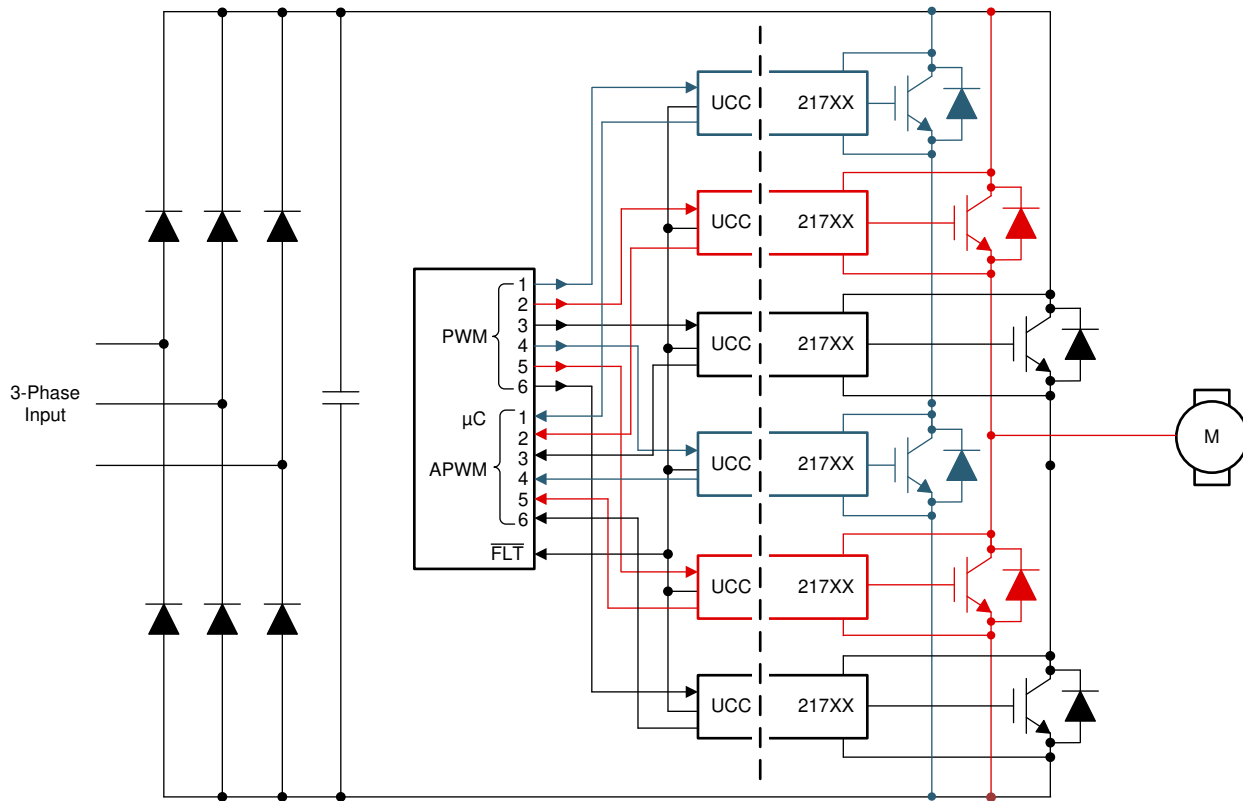

图 8-1. Typical Application Schematic
**图 8-1** shows the typical application of a half bridge using two UCC21737-Q1 isolated gate drivers. The half bridge is a basic element in various power electronics applications, such as a traction inverter in a HEV/EV to